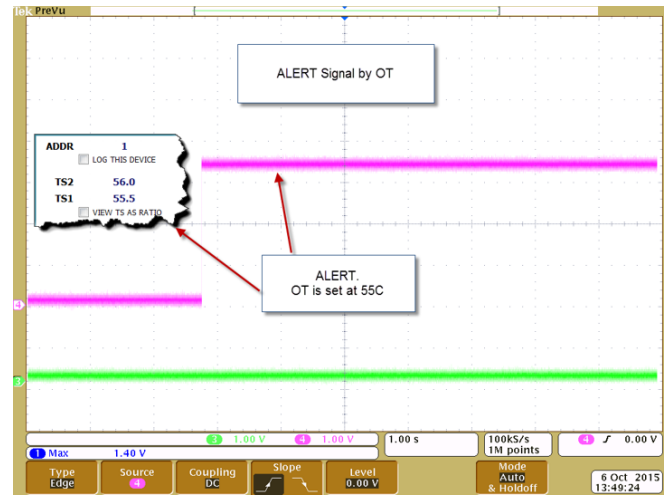

Figure 31. ALERT From Overtemperature
5. The alert signal has been asserted when the IC reads above 55°C, as Figure 31 shows.